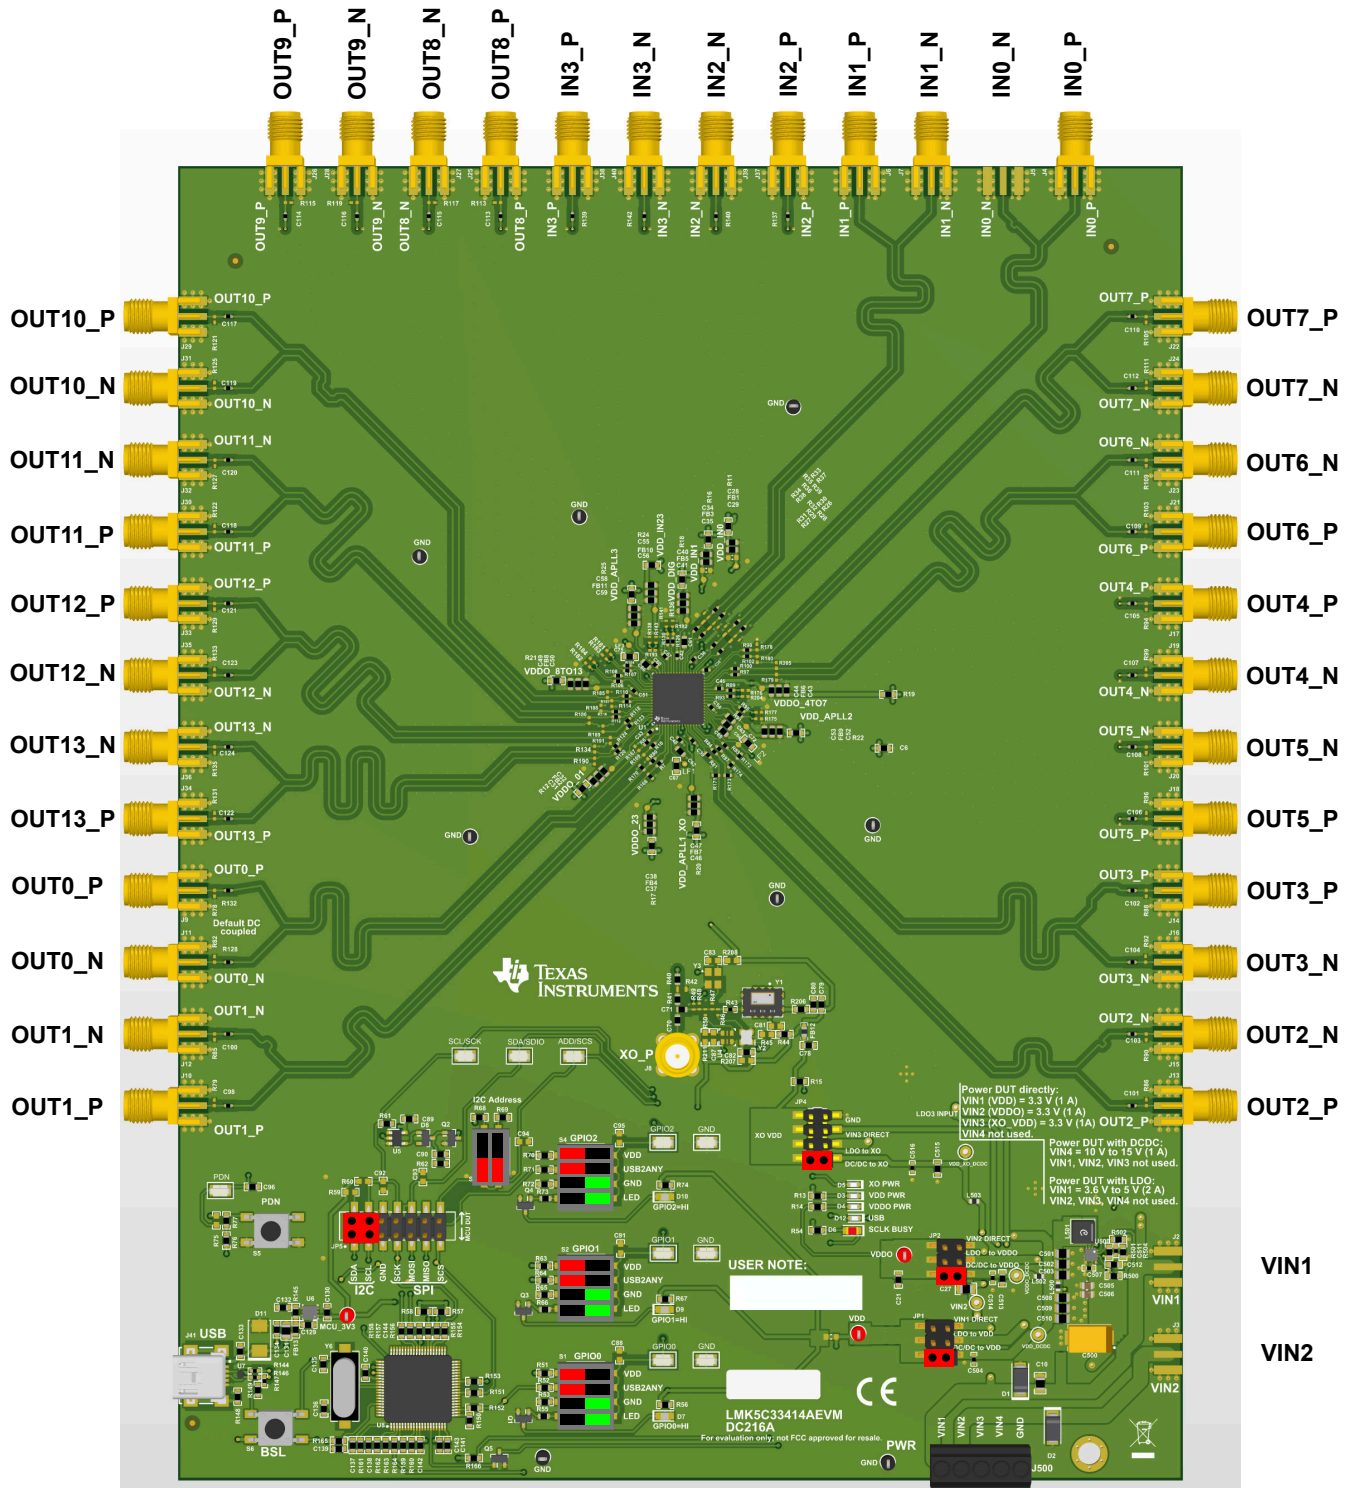

Figure 1-1. LMK5C33414AEVM Default Setting of Jumpers and DIP Switches
Figure 1-1 shows the jumper position with red markings. Figure 1-1 shows the DIP switch positions in either green boxes (for ON) or red boxes (for OFF) in the appropriate location.
1. Verify the EVM default jumper and DIP switch settings shown in Figure 1-1.